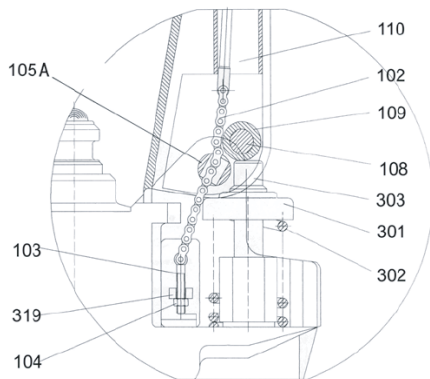

Figure 3.
5. Place control handle (117 or 120G) in the 'LOWER' position, then pass the adjusting nut (104), adjusting bolt (103) and chain (102) through the hole of axle (105A) with your hand (See figure 3).